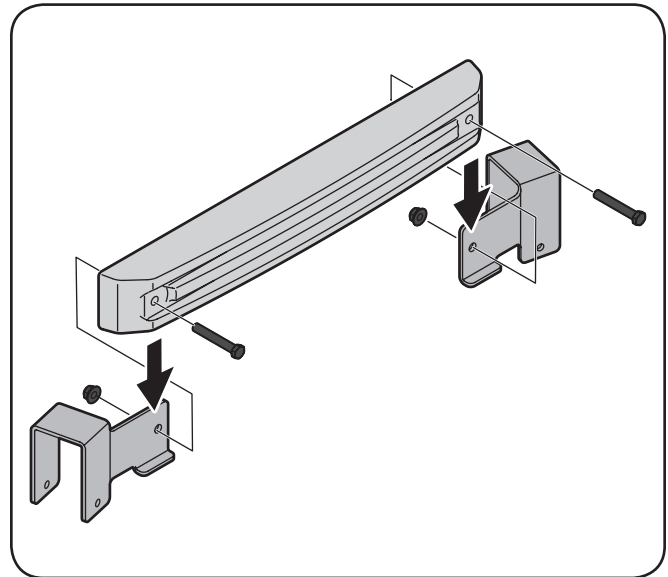

Figure 5-26
1. Attach the left mounting bracket and the right mounting bracket to the weight bar using two 2½-inch screws (710-0859), and ⅜-inch flange nuts (712-04065) from hardware pack 689-00325. See Figure 5-26.